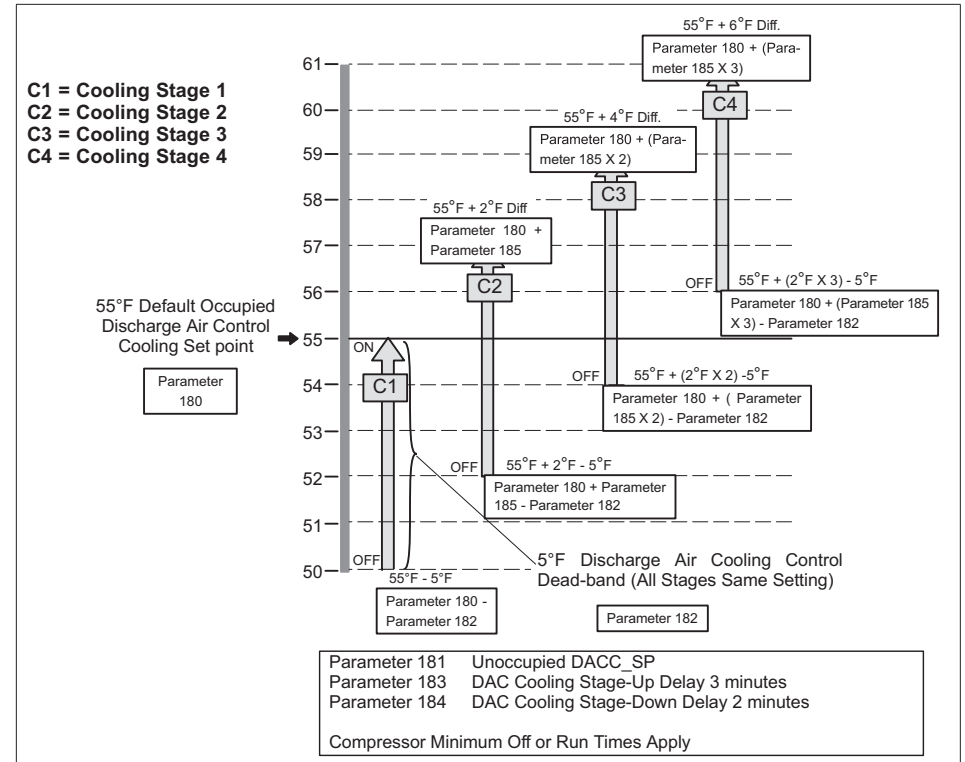

Figure 14. Discharge Air Control Cooling Stages - Default Values Shown
- Refer to “Figure 14. Discharge Air Control Cooling Stages - Default Values Shown” on page 51.
**EXAMPLE:** The application calls for the discharge air cooling occupied set point Parameter 180 to be 55°F when Outdoor Air Temperature is 80°F or higher. When the Outdoor Air Temperature drops below 80°F, the set point needs to increase proportionately with the Outdoor Air Temperature decrease (maximum set point increase of 10°F). The 10°F Outdoor Air Temperature decrease is called the Parameter 203 and the set point increase of 10°F is called the Parameter 201. See figure 14.